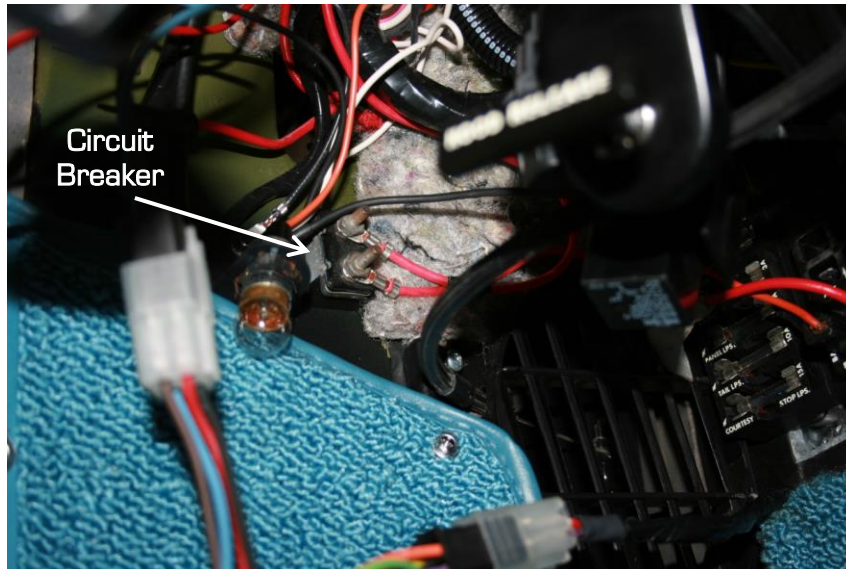

Figure 2 - Locate Circuit Breaker
1. The new headlight kit will be connected to the existing 30 Amp circuit breaker for the original electric headlight door system that is located under the dash in the driver's side A-pillar/ kick panel area (Figure 2). This circuit breaker will need to be located and the original headlight door system power wire will need to be disconnected leaving the battery feed connected to the circuit breaker. There are several circuit breakers in this area that look the same so you will need to disconnect the circuit to determine which one is the correct circuit breaker. Disconnect the battery and look at the circuit breakers under the dash to try to determine from the wire routing which one is connected to the headlight door system.